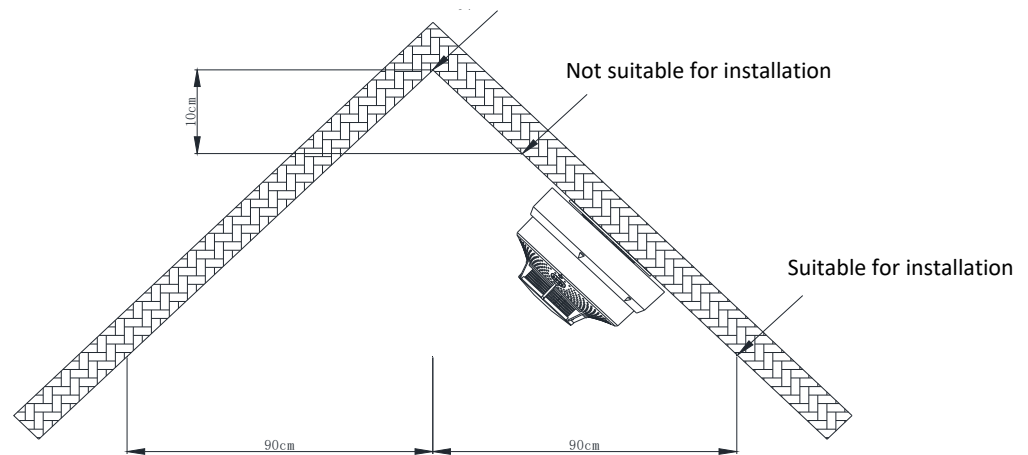

Fig. 4 Schematic diagram of the installation position of the alarm on the sloping roof
- 1.3 Installed on a sloping or gable roof: the alarm should be kept at a certain distance from the roof. When the slope is less than 30 degrees, the appropriate distance is 20 cm, and when the slope is greater than 30 degrees, the appropriate distance is 30 cm to 50 cm. (As shown in Figure 4)